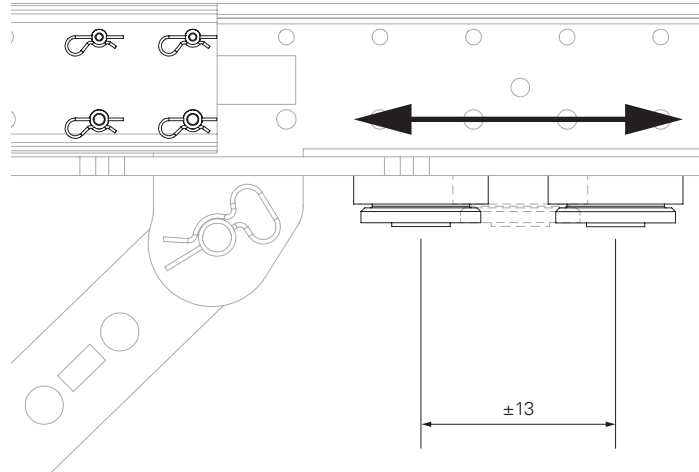

Fig. H1.02
- The calotte (**100.3**) is used for fine adjustment of the extension length by ± 13 cm (Fig. H1.02)